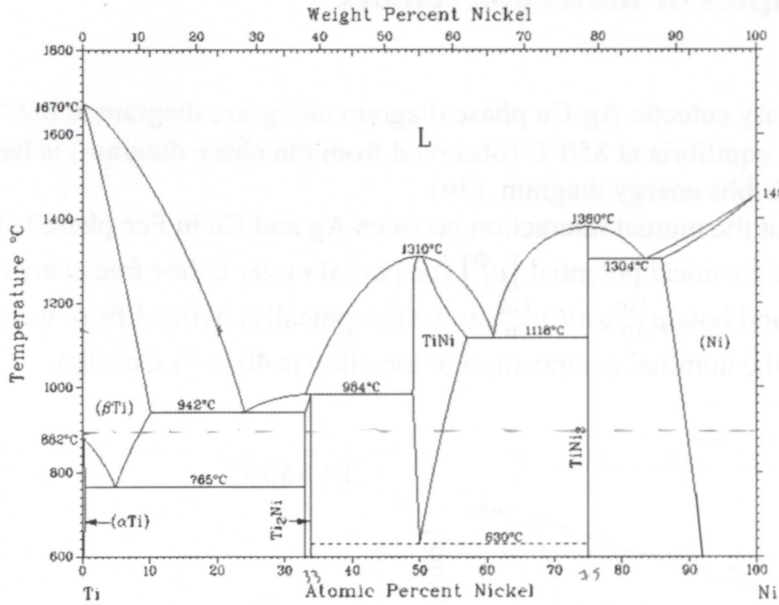

Figure 2 Ni-Ti binary phase diagram
2. Figure 2 shows the Ni-Ti (Nickel-Titanium) phase diagram. With the help of the diagram answer following questions: